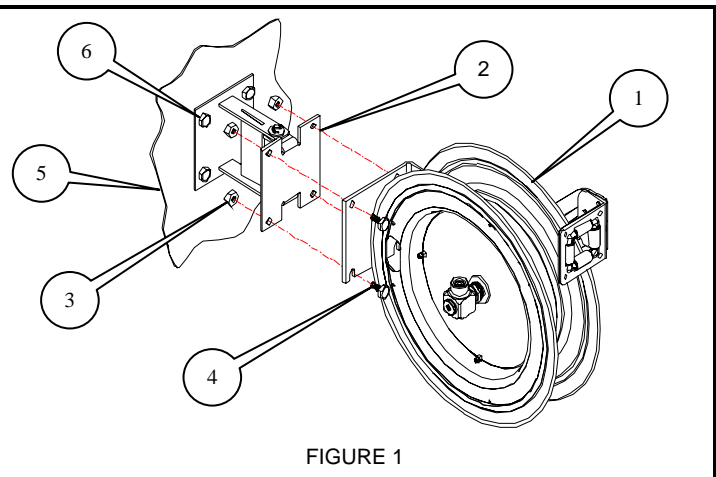

FIGURE 1
- Review reel to determine if roller bracket orientation is perpendicular to work area. If reel has arm guide and roller bracket as shown in Figure 1, you may need to move the arm guide to desired location. Simply remove four bolts holding arm guide, re-position, re-attached bolts and torque to proper specifications.